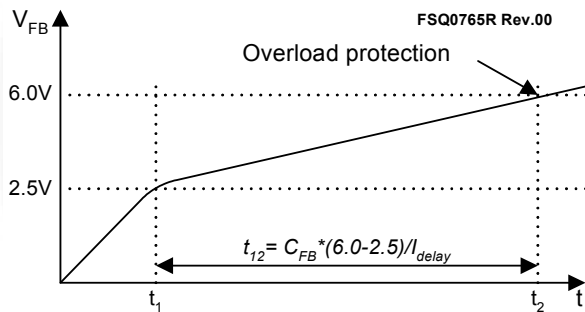

Figure 29. Overload Protection
4.1 Overload Protection (OLP): Overload is defined as the load current exceeding its normal level due to an unexpected abnormal event. In this situation, the protection circuit should trigger to protect the SMPS. However, even when the SMPS is in the normal operation, the overload protection circuit can be triggered during the load transition. To avoid this undesired operation, the overload protection circuit is designed to trigger only after a specified time to determine whether it is a transient situation or a true overload situation. Because of the pulse-by-pulse current limit capability, the maximum peak current through the SenseFET is limited, and therefore the maximum input power is restricted with a given input voltage. If the output consumes more than this maximum power, the output voltage (V_O) decreases below the set voltage. This reduces the current through the optocoupler LED, which also reduces the optocoupler transistor current, thus increasing the feedback voltage (V_{FB}). If V_{FB} exceeds 2.5V, D1 is blocked and the 5 μ A current source starts to charge CB slowly up to V_{CC} . In this condition, V_{FB} continues increasing until it reaches 6V, when the switching operation is terminated, as shown in Figure 29. The delay time for shutdown is the time required to charge C_{FB} from 2.5V to 6V with 5 μ A. A 20 ~ 50ms delay time is typical for most applications.